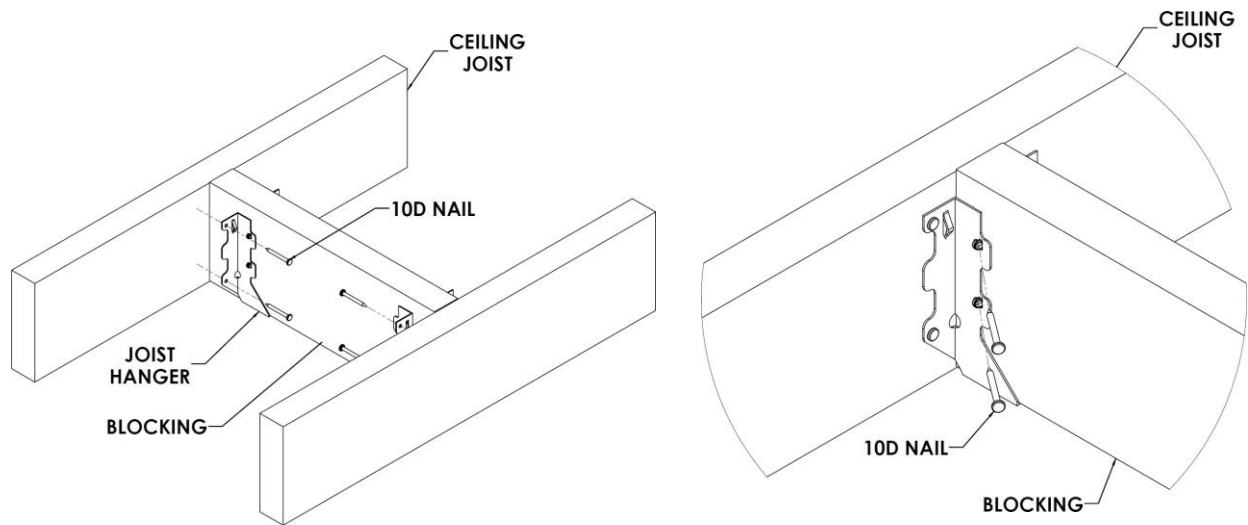

Figure 176: *Joist Hangers and Nails*
6. On both sides of the blocking, use appropriately sized joist hangers (to match the wood blocking dimensions) with 10D nails to attach the blocking to the joists, as shown in Figure 176.